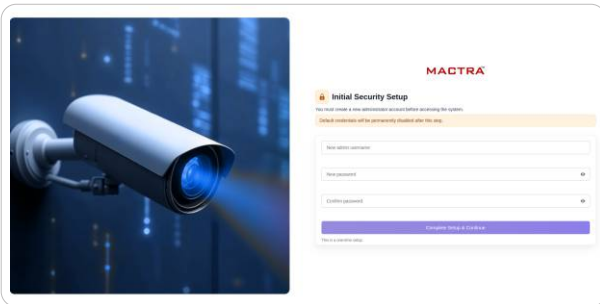

Figure 2: Initial Security Setup
- Then, click the **Complete Setup & Continue** button to proceed, as shown in **Figure 2**.